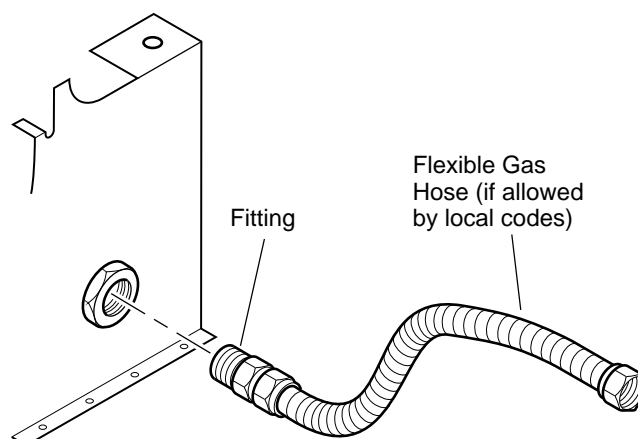

Figure 11 - Attaching Flexible Gas Hose to Heater
1. Apply pipe joint sealant lightly to male threads of the fitting to be threaded into gas control. Connect approved flexible gas hose to gas control fitting in heater (see Figure 11).